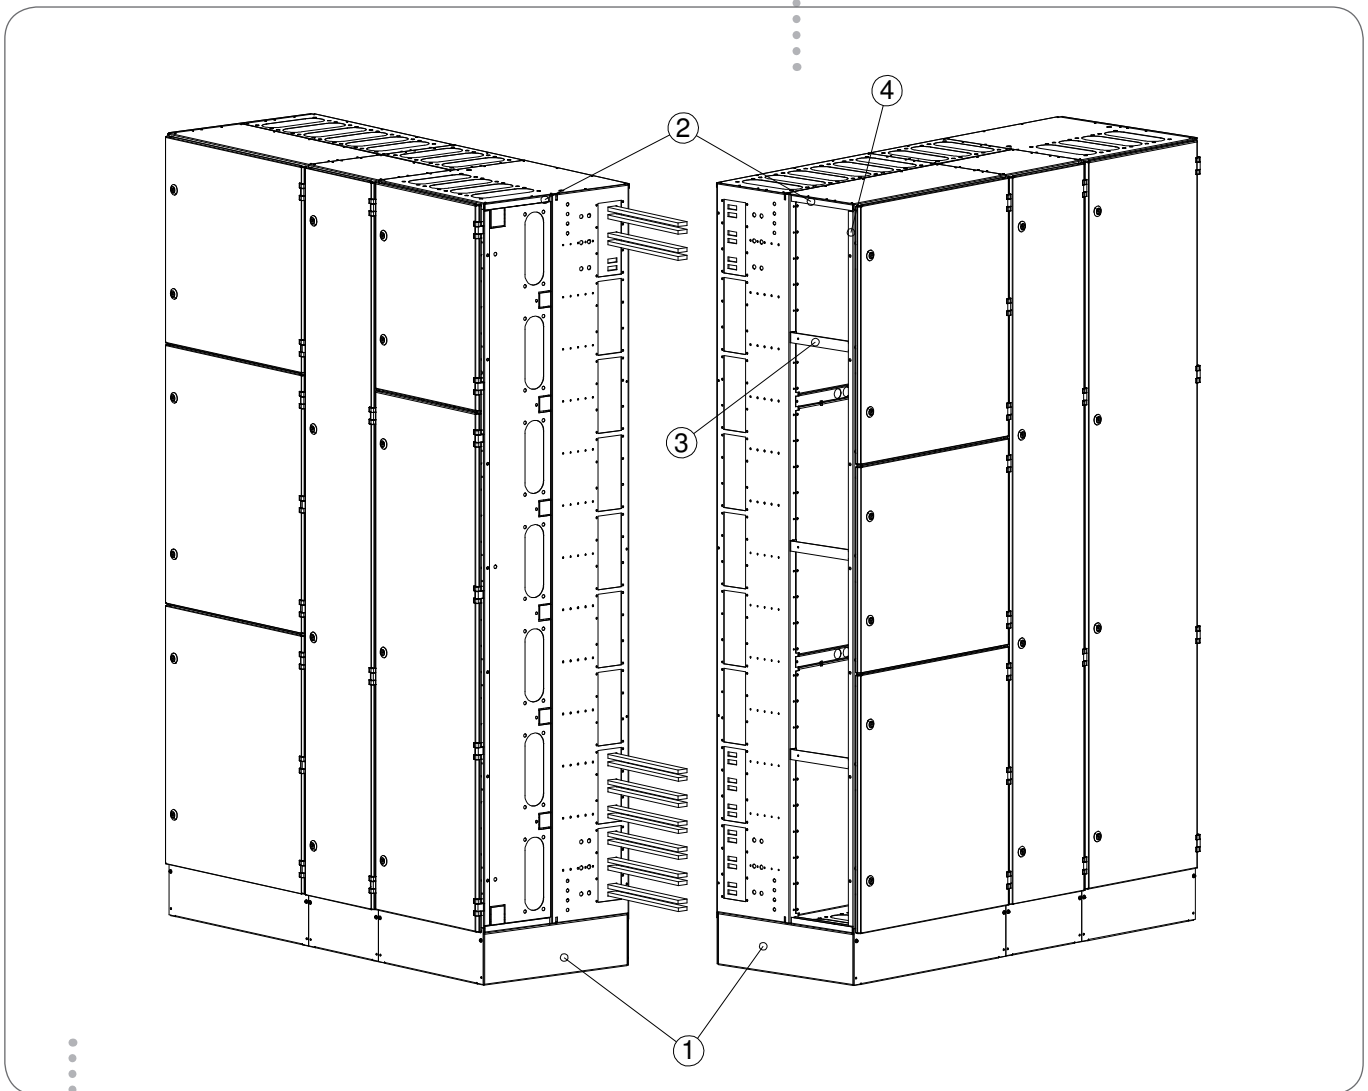

Fig. 5.1 Structure of transport break.
The F-serie cell centre can be, as necessary, separated into two or more sections for transport. At the break point, the base dividers are replaced by two base end plates (1), the end supports by extension end supports (2), and the front profiles by extension front profiles (4), see Fig. 5.1. The transport break point should be located at either side of a cable field in order to make busbar reconnecting easier.
It is not necessary to have two front dividers at the transport break, as shown in Figure 5.1 where the other front divider is replaced by a few 250 mm intermediate supports (3).